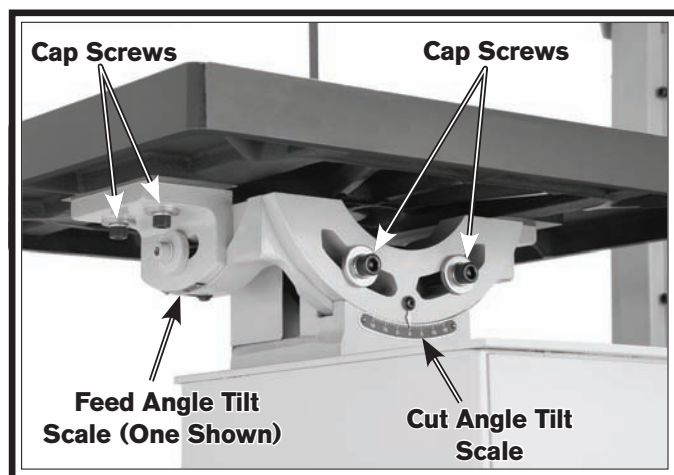

Figure 23. Table tilt adjustment controls.
2. Use an 8mm wrench to loosen the two cap screws on the cut angle trunnion underneath the rear of the table (see **Figure 23**).
2. Use a 6mm hex wrench to loosen both sets of cap screws on the two feed angle tilt scale brackets (see **Figure 23**).